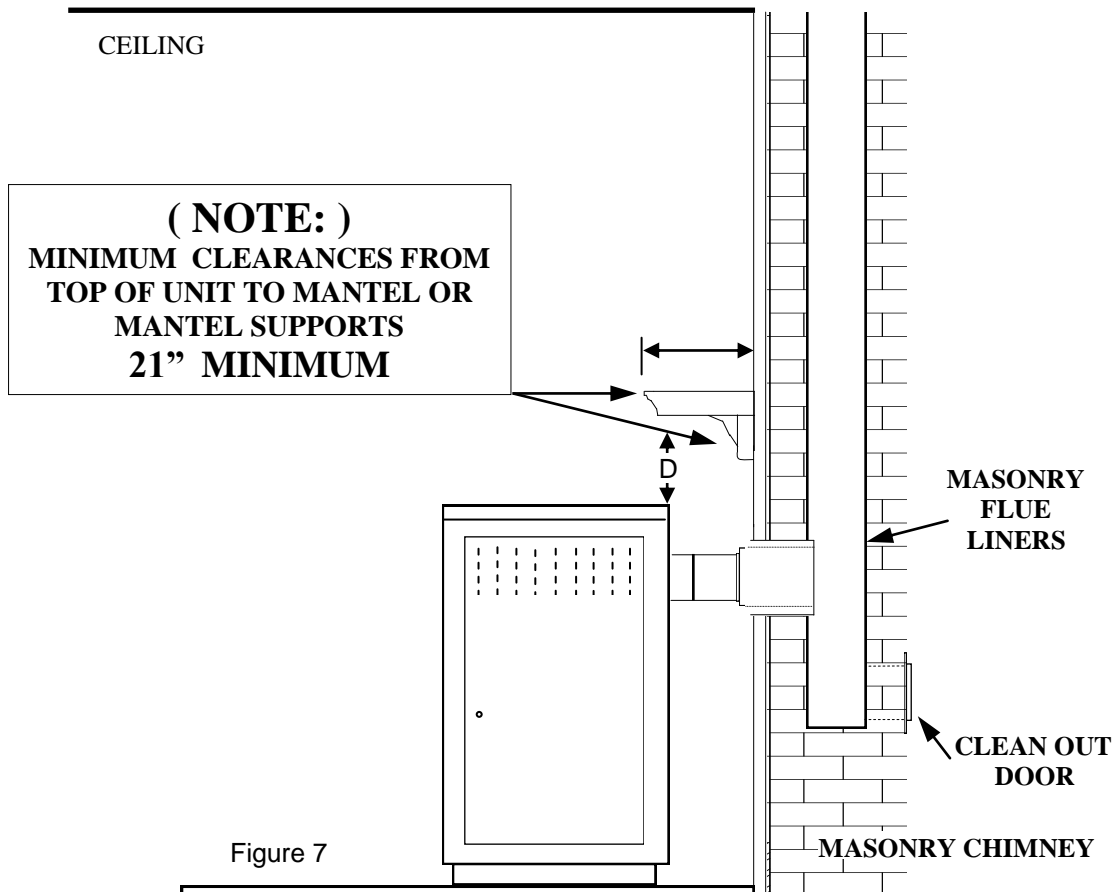

Figure 7
**A-1. 6" Single Wall pipe (See Page 11, Figure 6, and Figure 7 )**